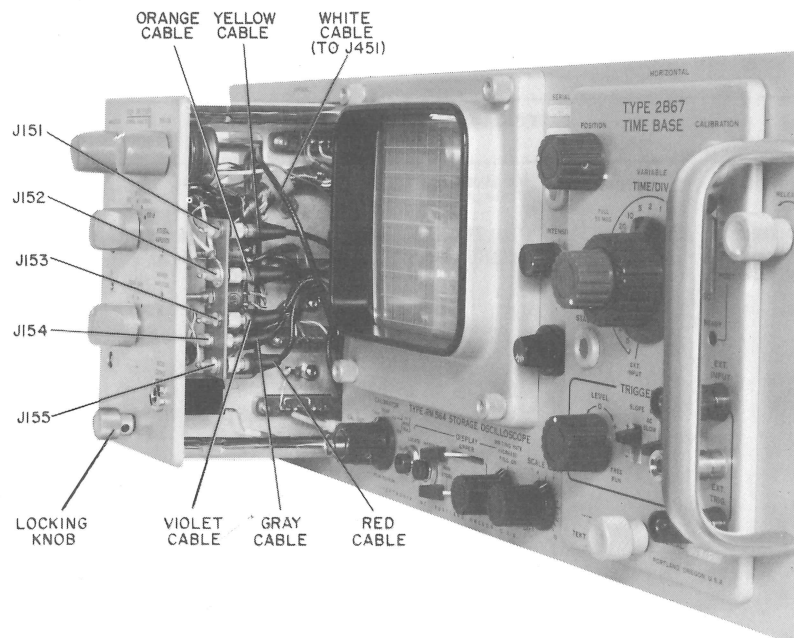

Figure 5-2. Receiver plug-in partially pulled out of main chassis.
- Rotate the locking knob at the bottom of the front panel ccw until the latch releases (Figure 5-2).
e. Locate the six coaxial cables with the miniature coaxial connectors attached and disconnect each of the coaxial cables at the rear of the front panel (Figure 5-2).
b. Connect each of the six coaxial cables to the jacks provided according to the colorcoding (Figure 5-2).